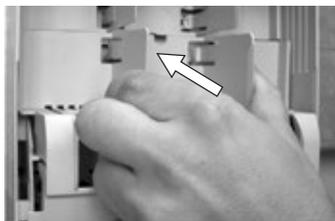

Figure 9
- Withdraw the shield for terminals up to the base until the fasteners of the cover for terminals are fasten (Figure 9).